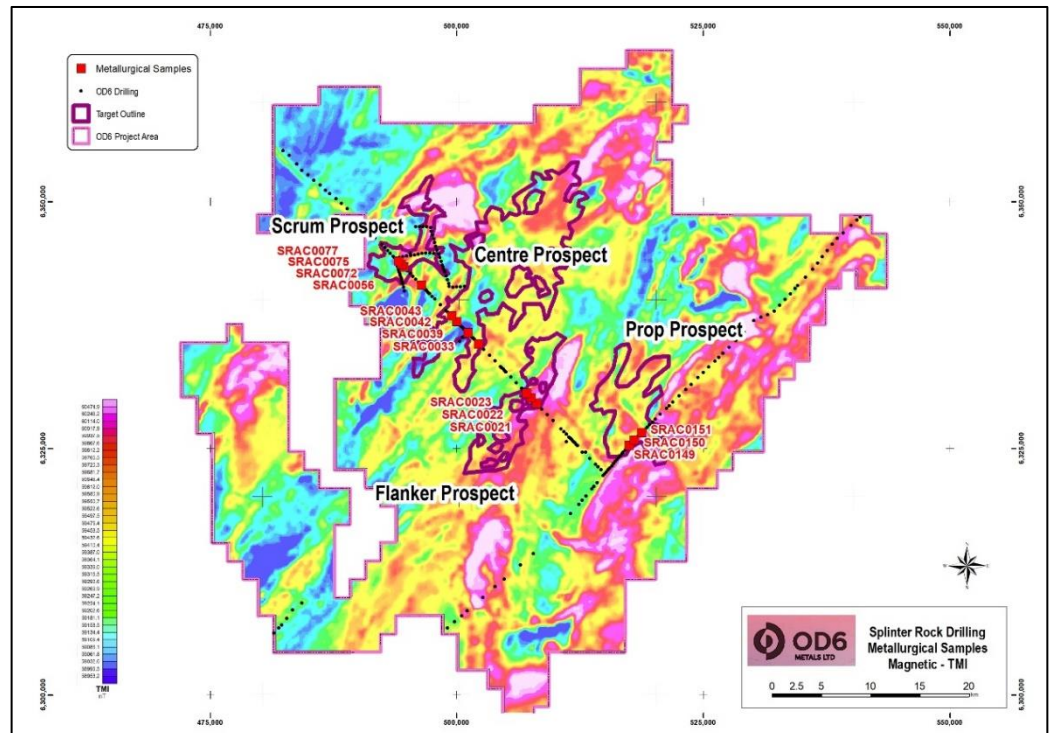

Figure 7: Splinter Rock Total Magnetic Intensity model showing magnetic highs in pink and lows in blue
3. The AEM also collected **Total Magnetic Intensity** (TMI) data which measures variations in the intensity of the magnetic field caused by the contrasting magnetic mineral content of rock. The model below in Figure 7 shows there are magnetic highs in pink and lows in blue with each of the prospects being positioned over different magnetic intensities which suggest potential variations in basement mineral characteristics.